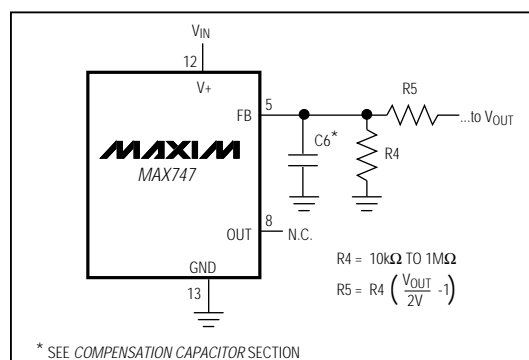

Figure 5. Adjustable Output Circuit
The MAX747's output voltage can be set to 5V by grounding FB, or adjusted from 2V to 14V using external resistors R4 and R5, configured as shown in Figure 5. Select feedback resistor R4 from the 10kΩ to 1MΩ range. R5 is given by:
**For adjustable-output operation, FB becomes the compensation input pin and CC is left unconnected. Connect C6 between FB and GND in parallel with R4 (Figure 5). C6 is determined by:**